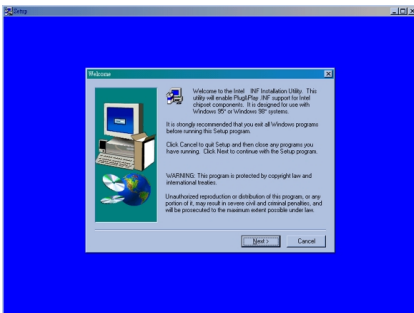
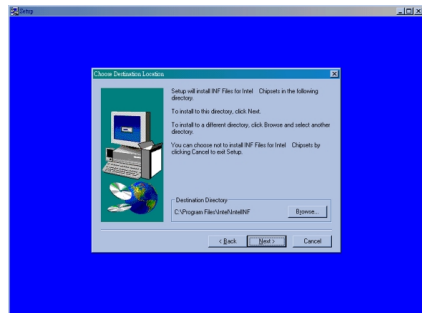

Figure 14
Figure 15
- Click “Copy INF File to HD” the following screen will appear Figure 14. To continue install procedure and click **Next** → Click **Yes** the following screen will appear Figure 15 to install INF Files software program that default directory is `C:\Program Files\Intel\IntelINF`.